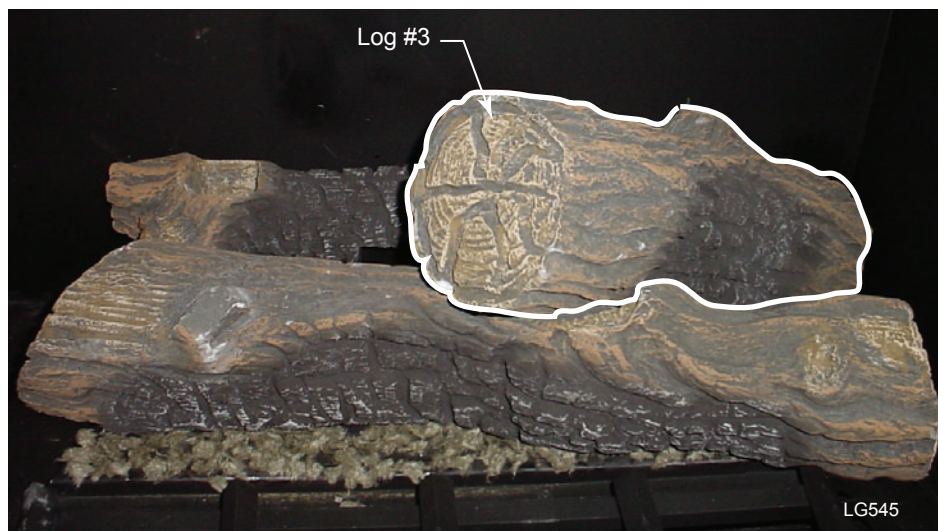

**Figure 67 -
4. Place log #3 at an angle over log #2 toward the back by matching the rectangular notch on the bottom of this log with the rectangular protrusion on log #2. Then set the notch located on the bottom of this log toward the back over the metal bracket located to the right side of the burner. *Figure 67*